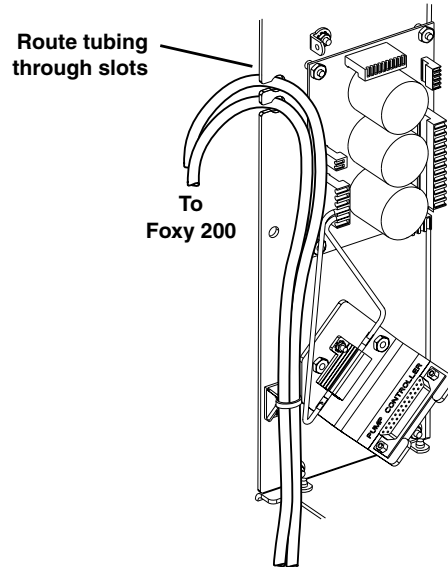

Figure 2-4 Routing the Sample Out lines (column module)
3. While facing the back of the column module, locate the two liquid tubing bundles secured to the lower-left inside case panel. Route these two bundles through the slots at the edge of the panel (Figure 2-4).